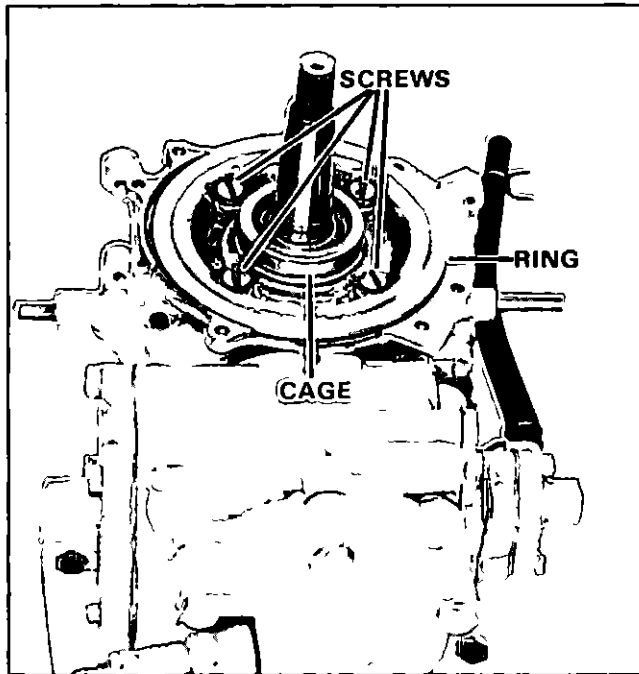

Figure 15. Removing Bearing Cage and Stator Ring.
- 4 Remove four (4) fill head screws securing bearing cage with seal, and stator ring to power head Remove bearing cage with seal and stator ring Figure 15